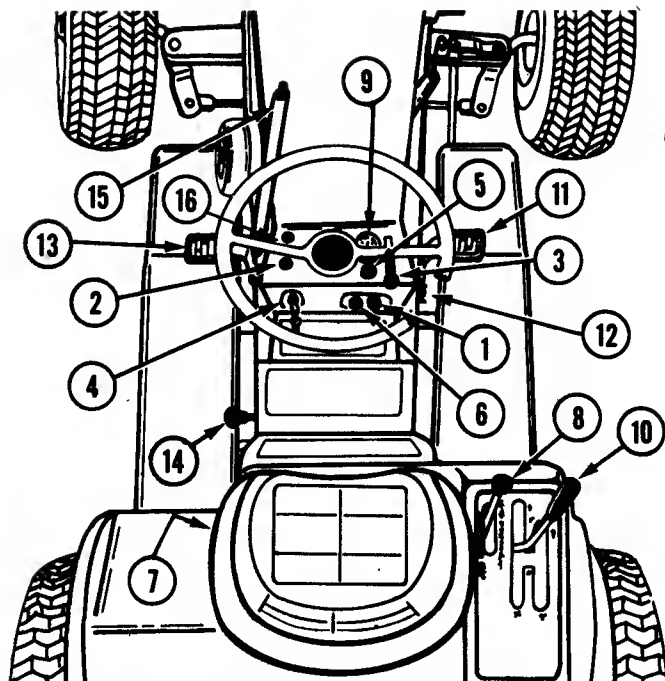
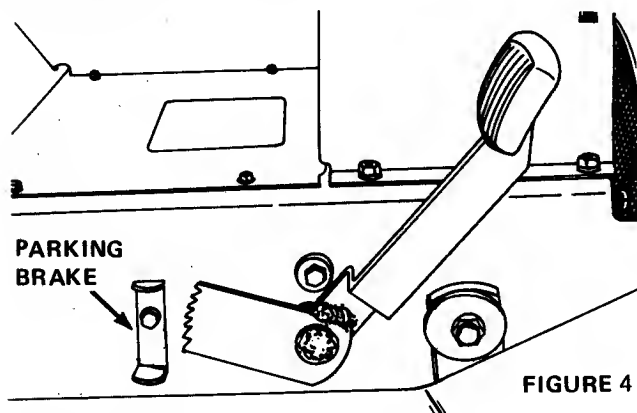

FIGURE 1
FIGURE 4
- 1 **Implement Power Control Switch** (Figure 1). Pull the switch out (ON) to engage the electromagnetic clutch to drive the mower and front mounted attachments.
- 2 **Implement Power Indicator Light** (Figure 1). This light glows red when the implement power control switch ① is pulled out to indicate that the mower or front mounted attachment is engaged.
- 3 **Throttle Lever** (Figure 1). Raise the lever to increase engine speed. Lower the lever to decrease engine speed.
- 4 **Ignition Switch** (Figure 1). Turn the key fully clockwise to start the engine and release when the engine starts. Turn the key counterclockwise to stop the engine.
- 5 **Choke Control** (Figure 1). Pull choke control out when attempting to start a cold engine or when starting during cold weather. When engine starts, gradually push choke in. Normally, it is not necessary to use the choke when starting a warm engine.
- 6 **Light Switch** (Figure 1). Pull the switch out to turn on the front and rear lights. The ignition key must be turned on before the lights work.
- 7 **Seat Safety Interlock Switch** (Figure 1) This switch, located in the seat, is closed by the operators weight. If the operator leaves the seat for any reason while the PTO is "ON" or the shift lever is not in "NEUTRAL" the PTO clutch and engine ignition are both shut off. When the PTO is "OFF" and the shift lever is in "NEUTRAL" leaving the seat will not cause the engine to stop.
- 8 **Hydraulic Lift** (Figure 1) Model S-14G only). This lever controls the hydraulic system used to raise and lower attachments. The lever has four positions — UP, HOLD, DOWN and FLOAT. The normal out-of-use position is the "HOLD" position, whereby the attachment will not raise or lower. When it is desired to raise the implement, move the lever to the "UP" position, to lower the attachment move the lever to the "DOWN" position. Place the lever in the "FLOAT" position to allow the attachments to follow the ground contours.
- 9 **Ammeter** (Figure 1). The ammeter indicates the rate of battery charge or discharge. The indicator should register on the (+) side of the dial when the engine is running at any speed above a slow idle. When the engine is idling or with a fully charged battery, the ammeter may not show charge. Should the ammeter register on the (—) side of the dial for an extended period of time with the engine running, it indicates the alternator is not charging the battery. Check the battery connections or contact your dealer.
- 10 **Gear Shift Lever** (Figure 1) This lever selects any of four forward speeds or reverse.
- 11 **Brake Pedal** (Figure 1) When this pedal is depressed the friction brakes will be applied to stop the tractor, **DEPRESS THE CLUTCH PEDAL ⑬ BEFORE ATTEMPTING TO STOP THE TRACTOR WITH THE WHEEL BRAKES.**
- 12 **Parking Brake** (Figure 1) The parking brake is a latch that locks the brake pedal. To apply the parking brake, depress the brake pedal, flip up the parking brake latch. ⑫ To disengage the parking brake, depress the brake pedal and push down the latch.
- 13 **Clutch Pedal** (Figure 1) Depressing this pedal removes the idler pulley from the drive belt and disconnects the engine from the drive train. Depress the clutch to shift gears or before attempting to stop.
- 15 **Manual Lift Lever** (Figure 1) (Model S-10G only). To raise attachment, press the thumb release, pull lever rearward and lock in the raised position. To lower attachment, press the thumb release and move lever forward. This lever is spring loaded to the rear position when the manual lift assist springs are engaged.
- 16 **Implement Reset Button** - Press to restart PTO in the event the operator leaves the seat momentarily. Under these conditions the PTO and engine ignition will be shut off. If the operator sits down before the engine stops revolving, the engine will restart, but the PTO will not start until the reset button ⑯ is pushed. If the engine stops, the normal starting procedure (Implement switch ① OFF; Shift lever ⑩ in NEUTRAL) must be followed.
- Be sure the Implement Power Control Switch (1) Figure 1, is pushed in (OFF).
- Raise throttle lever (3) Figure 1, to approximately 1/3 fast position.
- Pull choke control (5) Figure 1, all the way out if engine is cold. If engine is warm, little or no choke may be required.
- Turn ignition key (4) Figure 1, clockwise all the way. Release key as soon as the engine starts and push choke button in. In cold weather it may be necessary to push choke in gradually until engine warms up. If engine fails to start on the first attempt, turn key to off, wait a few minutes and try again. Do not operate the starting motor continuously for more than 30 seconds at a time.
To stop the tractor, depress the clutch pedal (13) and depress the brake pedal (11). Then place the shift lever in the "Neutral" position and set the parking brake. Figure 4.
1. Move the gear shift lever (10) Figure 1, in "Neutral" position, depress the brake pedal and set the parking brake (Figure 4).
2. Disengage Implement Power Control Switch (1) Figure 1, and rear driven attachments.
4. Lower the throttle lever (3) Figure 1, and allow engine to idle for a short period before turning it off.
5. Turn the ignition key (6) Figure 1, counterclockwise to stop engine.